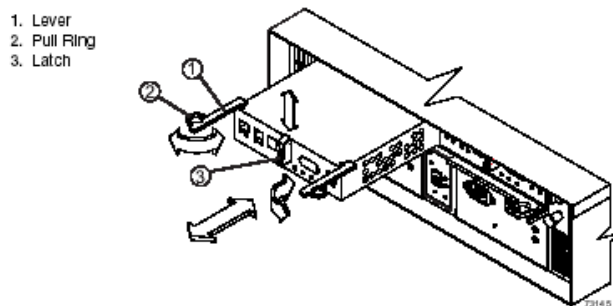

FIGURE 7-10 Removing and Replacing a Controller
9. Remove the failed controller. Figure 7-10 illustrates the following steps:
15. Slide the replacement controller all the way into the empty slot and lock the levers into place. Figure 7-10 on page 7-25 illustrates removing and inserting a controller.